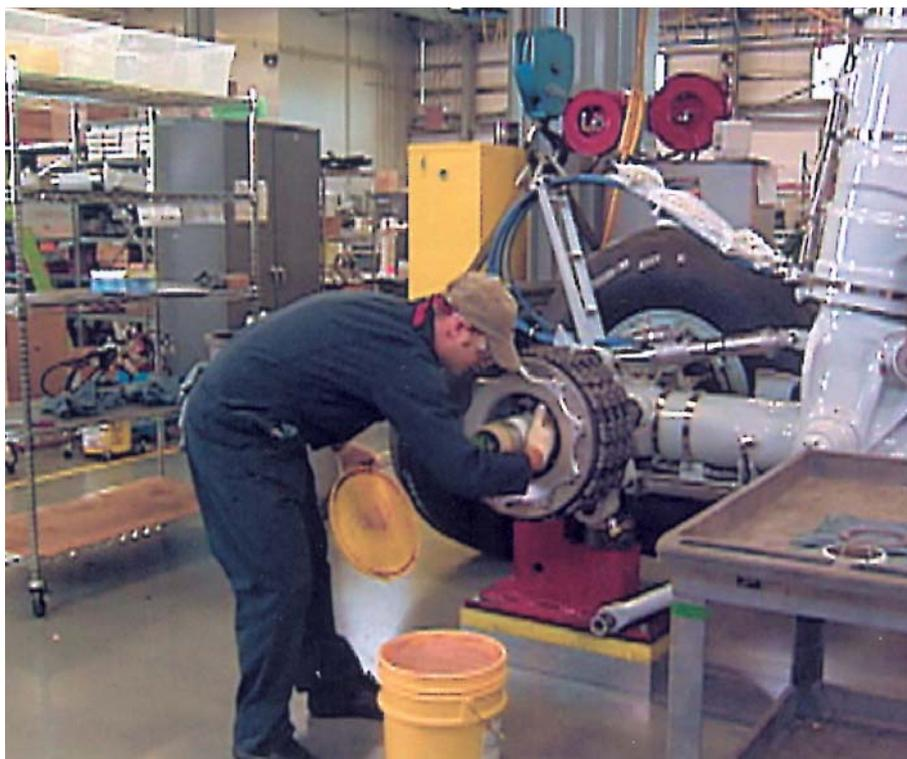
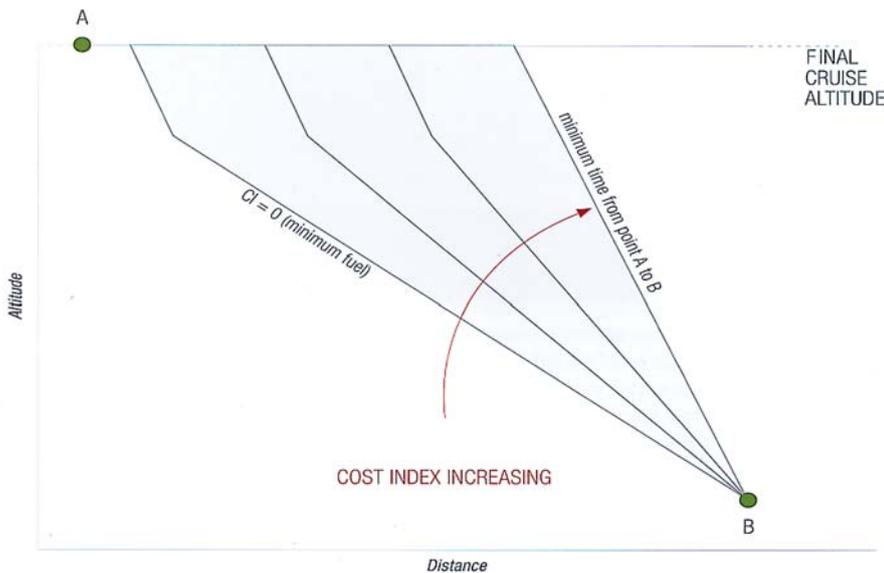

Figure 5: Thin layer of grease being applied to brake/axle sleeves
Figure 6: The effect of cost index when descending
- Using only approved greases in small quantities. While it is important to have adequate lubrication within the wheel bearings, only a thin layer of grease is necessary at the wheel/axle interface for wheel/tire installations. Similarly, only a thin layer of grease needs to be applied to the interface surfaces of the brake and axle sleeves when installing brakes (see fig. 5). When applying grease to the axle bushings on the brake assembly, it is important to completely fill the grooves in the bushings with grease.
Clearly, a low CI should be used when fuel costs are high compared to other operating costs. The FMC calculates coordinated ECON climb (see fig. 5), cruise, and descent speeds (see fig. 6) from the entered CI. To comply with Air Traffic Control requirements, the airspeed used during descent tends to be the most restricted of the three flight phases. The descent may be planned at ECON Mach/Calibrated Air Speed (CAS) (based on the CI) or a manually entered Mach/CAS. Vertical Navigation (VNAV) limits the maximum target speed as follows: